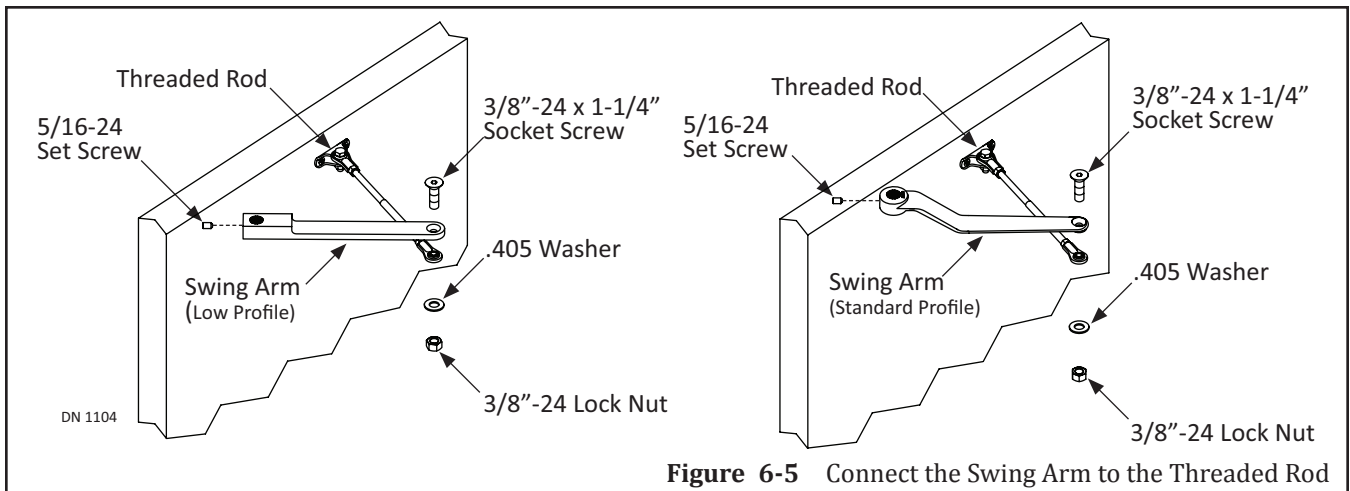

Figure 6-5 Connect the Swing Arm to the Threaded Rod
1. Align the screw hole at the end of Swing Arm to the Rod End screw hole. Please see Figure 6-5.
3. Secure the Swing Arm to the Threaded Rod with (1) 3/8"-24 x 1-1/4" Socket Screw, (1) .405 Washer, and (1) 3/8"-24 Lock Nut.